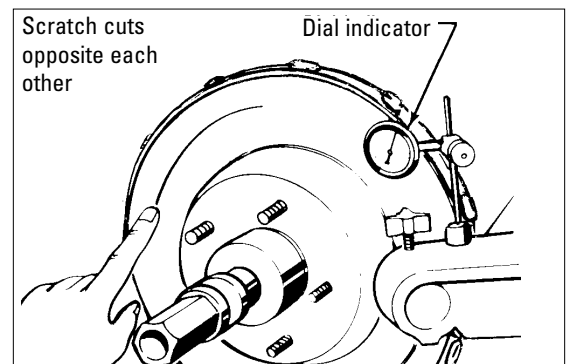

Figure 27 - Using a dial indicator
**12.** If the scratch cuts are side-by-side, the runout or wobble is caused by rotor condition. A dial indicator may be used to compare rotor runout with manufacturer's specifications. See figure 27.